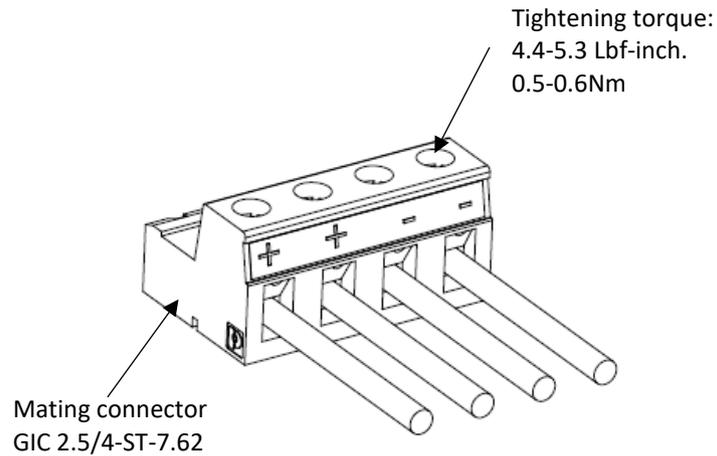

Figure 4-57: Four Wires Connection to The Output Plug
2. Insert the stripped wires into the terminals and tighten the terminal screws securely (see Figure 4-57). Tightening torque: 4.4-5.3 Lbf-inch. (0.5-0.6Nm).